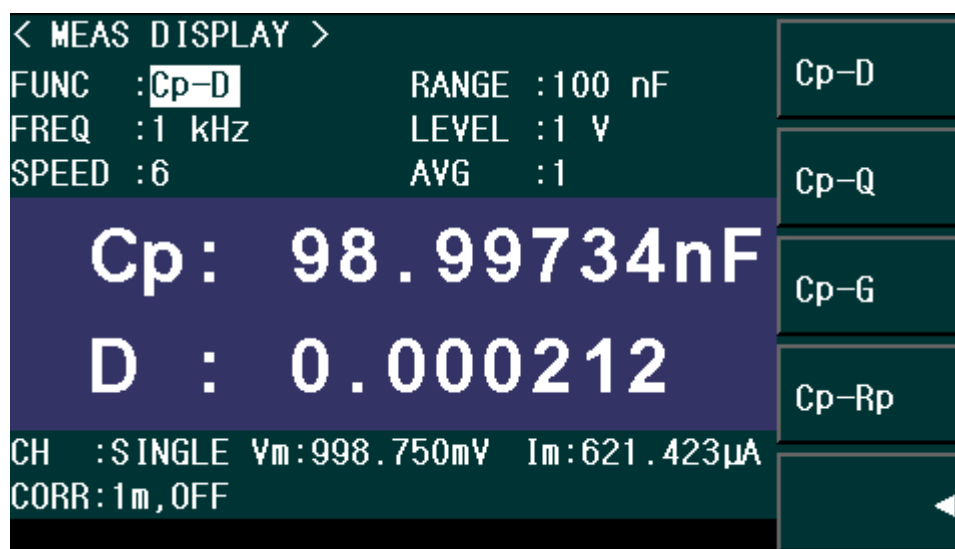

Figure 3-2 Secondary parameter selection menu screen
Step 4: Press the softkey to select the secondary parameter (as shown in Figure 3-2)